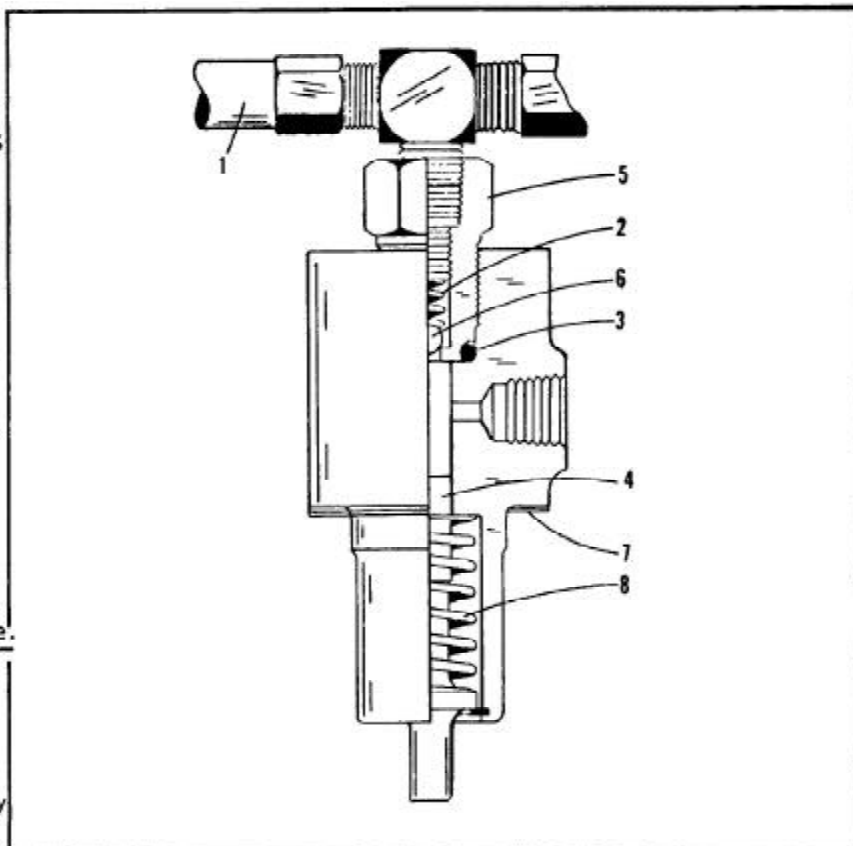

Fig. 8-7
The pump is operated by the same bell crank assembly that operates the fuel pump. As the ram rises, the bell crank moves rapidly upward and moves the lube oil pump plunger (4), Fig. 8-7, in the same direction forcing a small amount of lube oil past a spring (2) loaded ball check (6) and on through the hose (1) which connects to the lube oil header. This header, in turn, delivers this oil to three hoses. Two of these hoses lubricate the ram and cylinder bore. The other lubricates the fuel pump drive mechanism.
- Remove lube oil hose (1), Fig. 8-7 from top of lube pump.